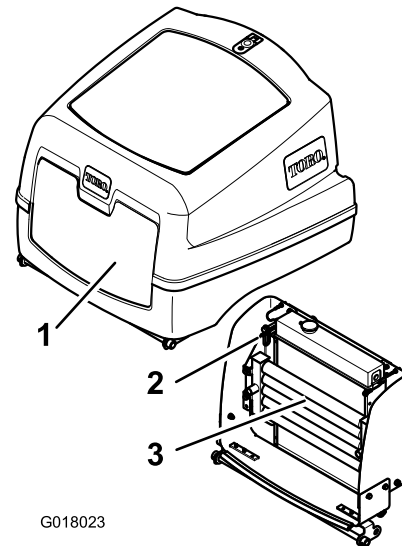

Figure 41
4. Release the latch and open the engine cover (Figure 41).